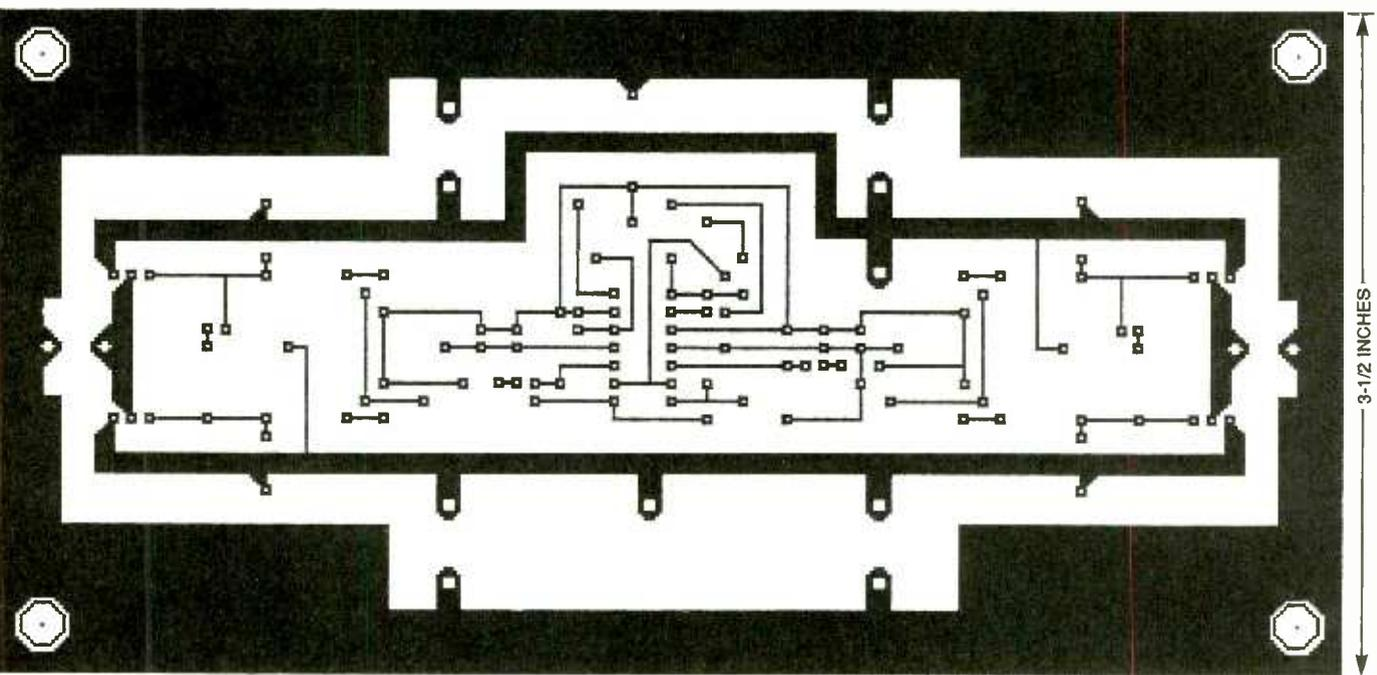

Fig. 3. Here's the full-size foil pattern for the Amplifier circuit board.
**Construction.** The author's prototype for the Switching Amplifier was built on two PC boards—one for the amplifier circuit itself, and one for the power-supply circuit. If you would like to do the same, use the amplifier and power-supply board templates shown in Figs. 3 and 4, respectively.